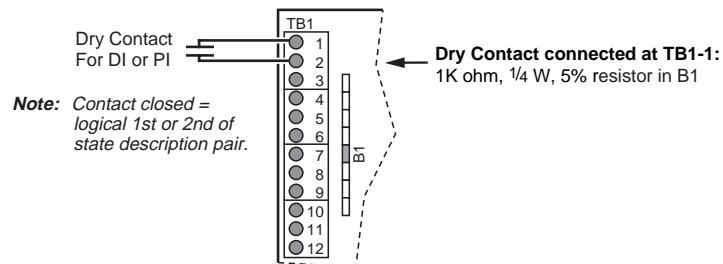

Figure 9. Dry Contact Connections
2. Connect the other lead of the sensor to the GND terminal of the 7716 (see Figure 9).